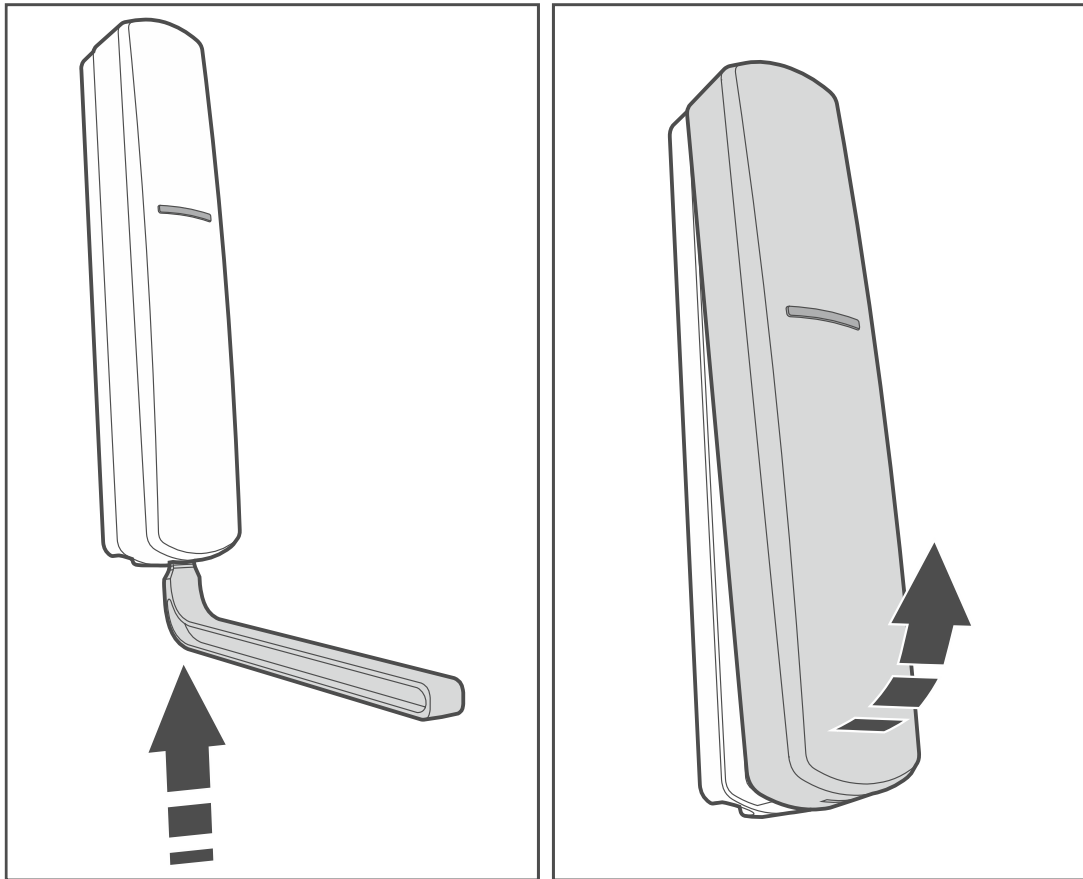

Fig. 5. Opening the enclosure.
1. Open the controller enclosure (Fig. 5). The enclosure opening tool, shown in the illustration, is included in the detector delivery set.